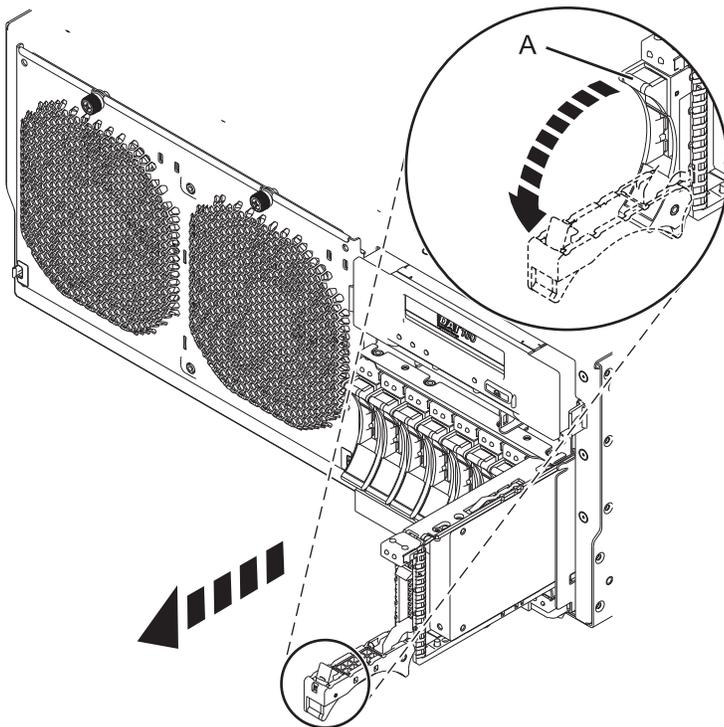

Figure 11. Removing the disk drive from the backplane
- 1) Unlock the disk drive handle (A) and pull it toward you to unseat the disk drive.
- 2) Place one hand under the disk drive and carefully pull the drive out of the system as shown in Figure 11.